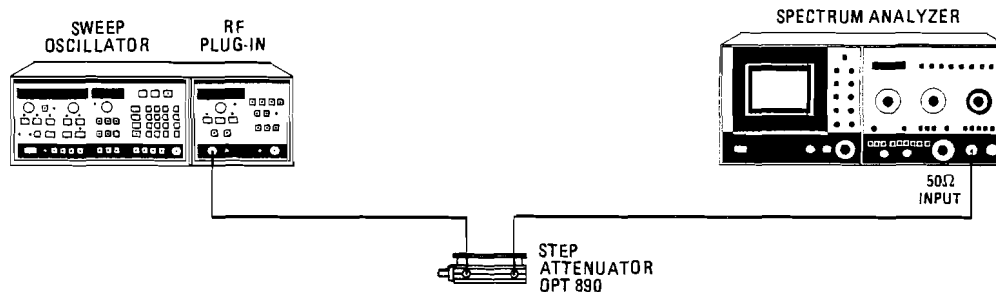

Figure 4-19. Attenuator Accuracy Test Setup
1. Connect equipment as shown in Figure 4-19. Press 8350A **INSTR PRESET**, **CW**. Enter the frequency and power level shown on the test card step 1.